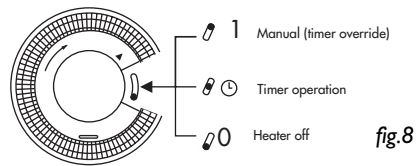

fig.8
If you wish to override the timer settings, push the timer switch to position 1 (fig.8) manual (timer override). To return to timed operation push the switch back to the middle position ⌚ (fig.8).
**NOTE:** if the timer switch is at the 0 position (fig.8), the heater is off and will not operate).